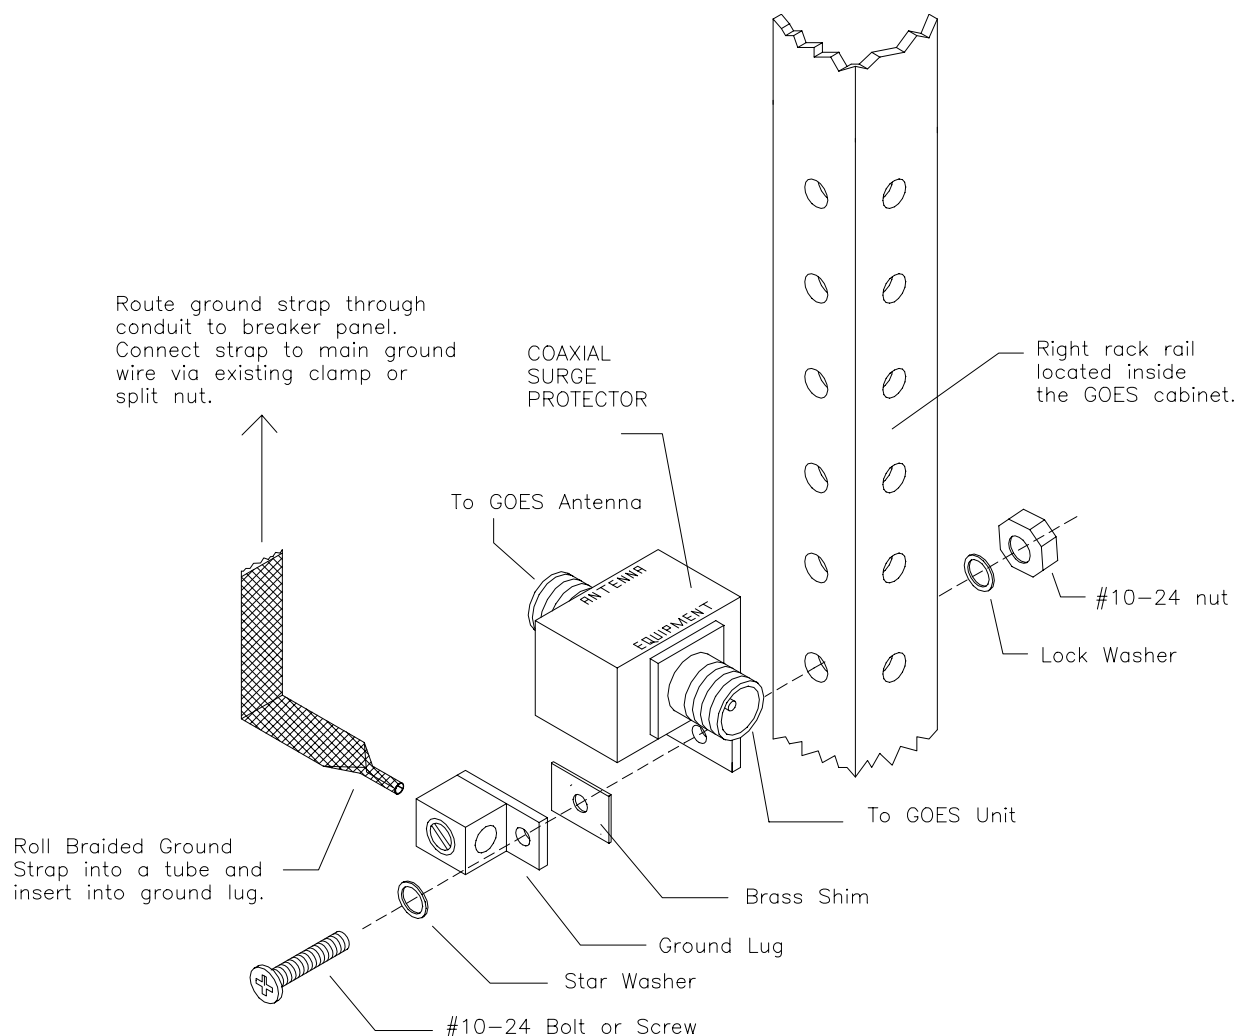

Figure 8-11 GOES Surge Suppressor Replacement
11. Connect the braided ground cable to the lug of the coaxial surge suppressor and tighten the lug securely (refer to Figure 8-11).
4. Remove the #10-24 machine screw that secures the ground lug and surge protector to the rack rail (see Figure 8-11).
5. Place the #10-24 machine screw through the ground lug, brass shim, and new surge protector, and fasten it to the rack rail. Check to be sure that the *Equipment* port of the surge suppressor is facing forward as illustrated in Figure 8-11.